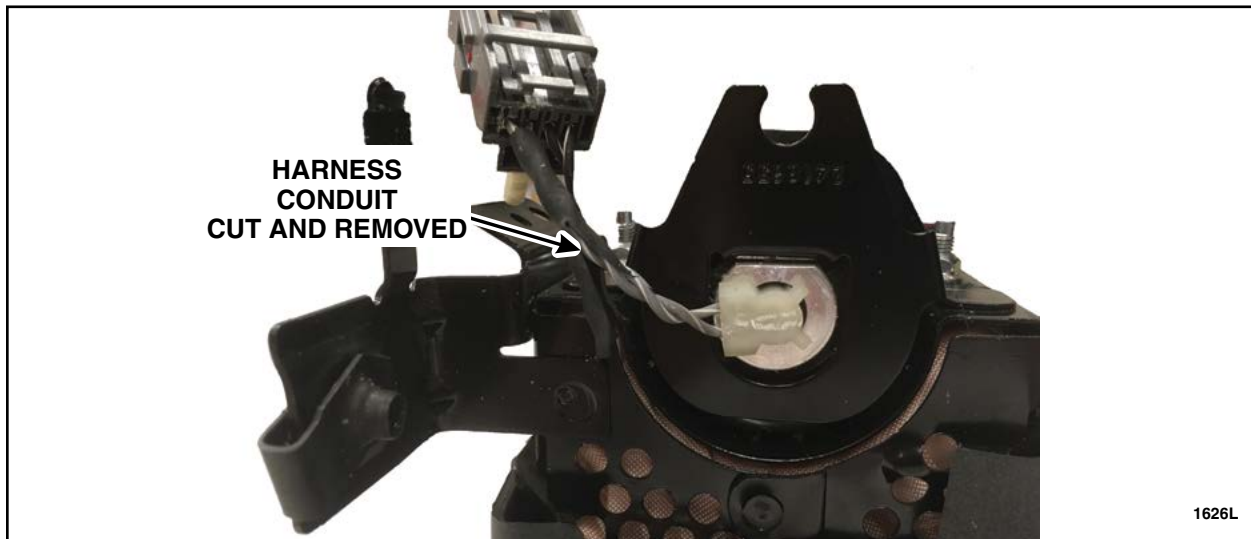

FIGURE 3
NOTE: Carry out this Step on the shorter wire on the end opposite of the airbag inflator retaining bracket. See Figure 3.
2. Remove the conduit from the passenger airbag assembly wire harness in the area shown. See Figure 3.